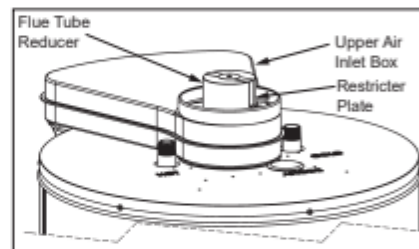
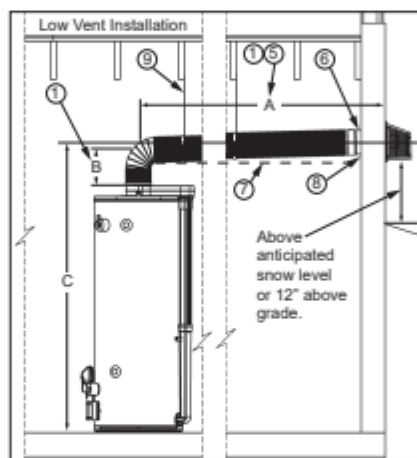

Figure 10 - Restrictor Plate
Figure 16 - Low Venting Installation
* If the horizontal length of the venting is less than 30" the restricter plate must be installed (see Figure 10, Figure 16 through Figure 18).
The vent restrictor plate (see Figure 10) is required for short horizontal runs on low vent installations (Figure 16) and high vent installations (Figure 18).